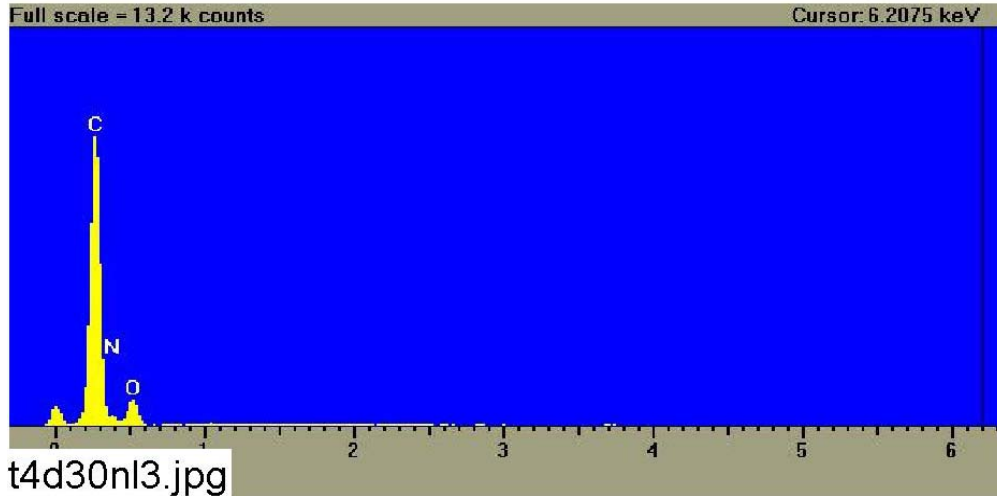

Figure C2-3. EDS counting spectrum for the spot of nylon mesh shown in Figure C2-2. (t4d30nl3.jpg)
- Figure C2-3. EDS counting spectrum for the spot of nylon mesh shown in Figure C2-2. (t4d30nl3.jpg)..... C2-5